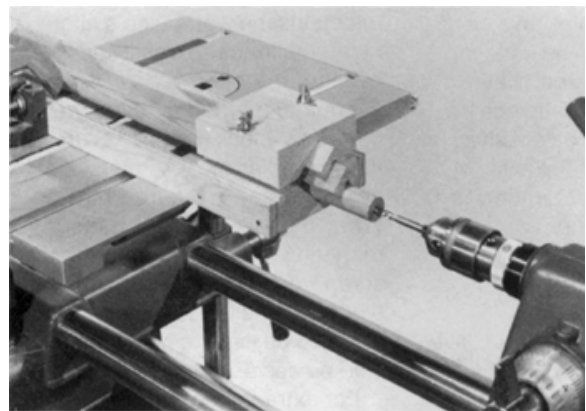
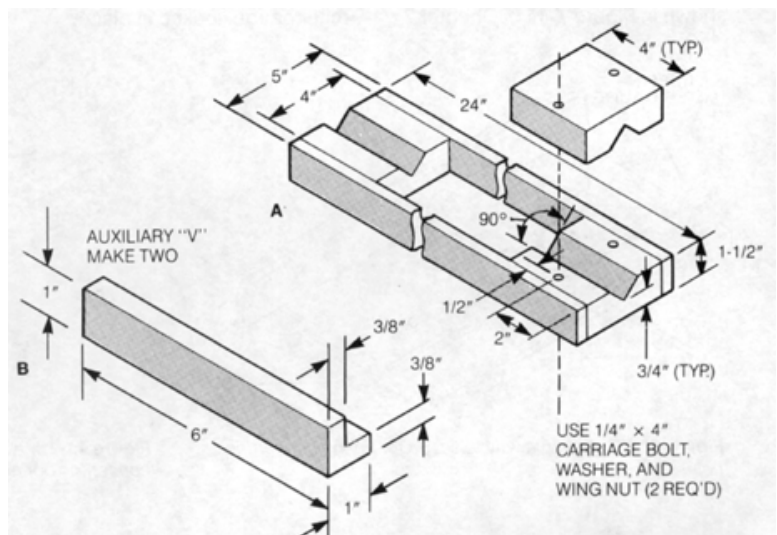

Figure 11-21. An extension V-block is used for extra-long workpieces.
Figure 11-23. Construction details of the (A) extension v-block and (B) the auxiliary V's. The shape needed is actually a rabbet cut.
- **End Boring Long Workpieces.** Sometimes, it's necessary to drill holes in the ends of long workpieces. A couple of examples of this procedure include lamp standards – or joining long or tall turned bedpost sections together. When this is necessary, you can often use your worktable and Miter Gauge to form a jig to hold your stock firmly in position while you drill your hole. However, there are other times when this procedure might not provide the precision you need. In those cases, you may have to craft a special holding jig like the one shown here. (Fig.11-21 and Fig.11-23)